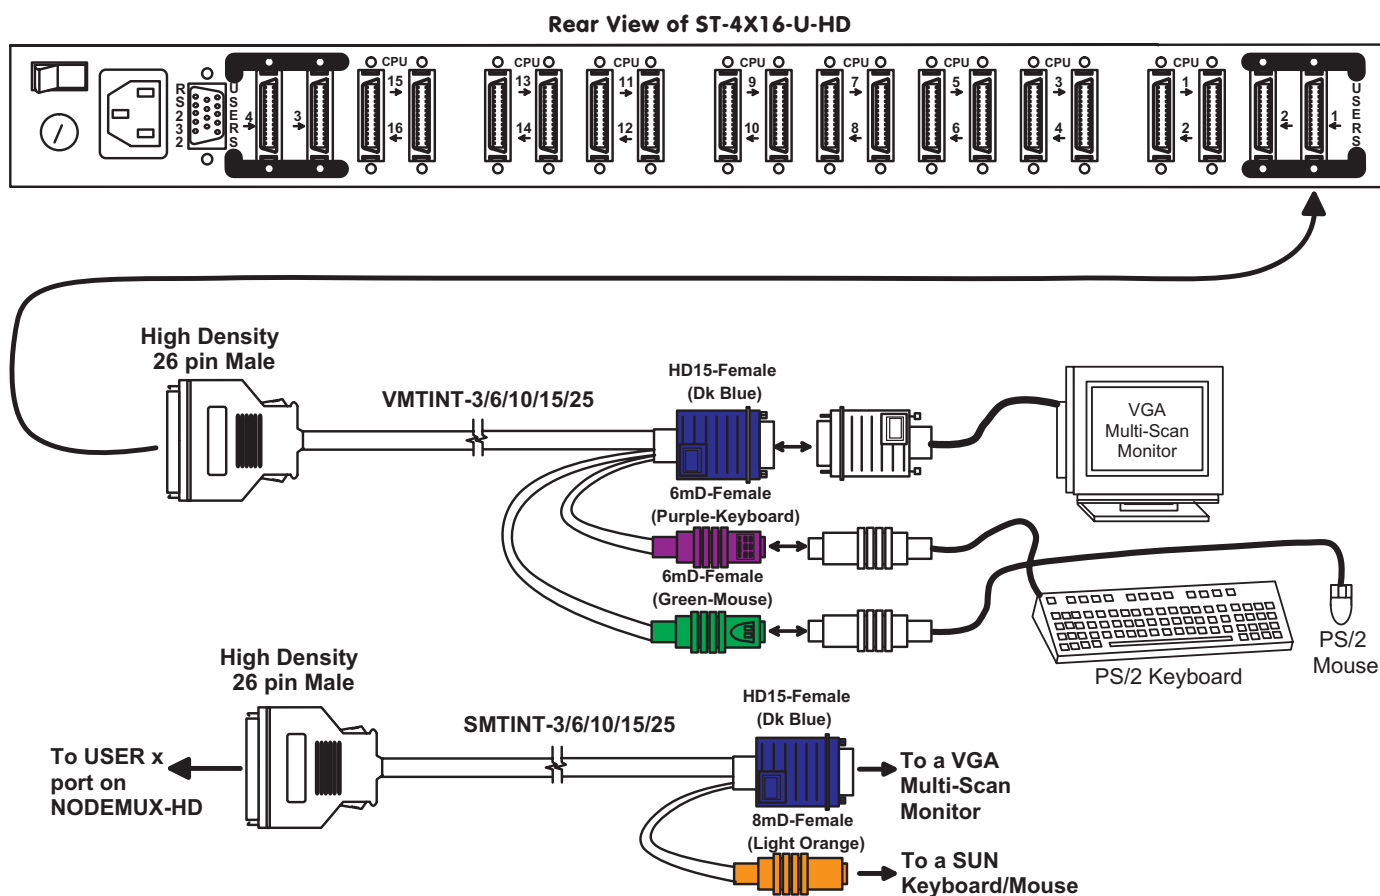

Figure 1- Connect devices to switch using interface cables
2. Connect the monitors to the 15HD female connector ends of the VMTINT-xx or SMTINT-xx cables, depending upon what type of devices will be connected (PS/2 or SUN). See Fig. 1.
3. Connect the keyboards to the purple 6 miniDIN female connector (PS/2) or orange 8 miniDIN female connector (SUN) of the VMTINT-xx or SMTINT-xx (respectively). If using a PS/2 mouse, connect it to the green 6 miniDIN female connector on the VMTINT-xx cable. See Fig. 1. Insure that the monitors and related keyboards are connected to the same interface cables.